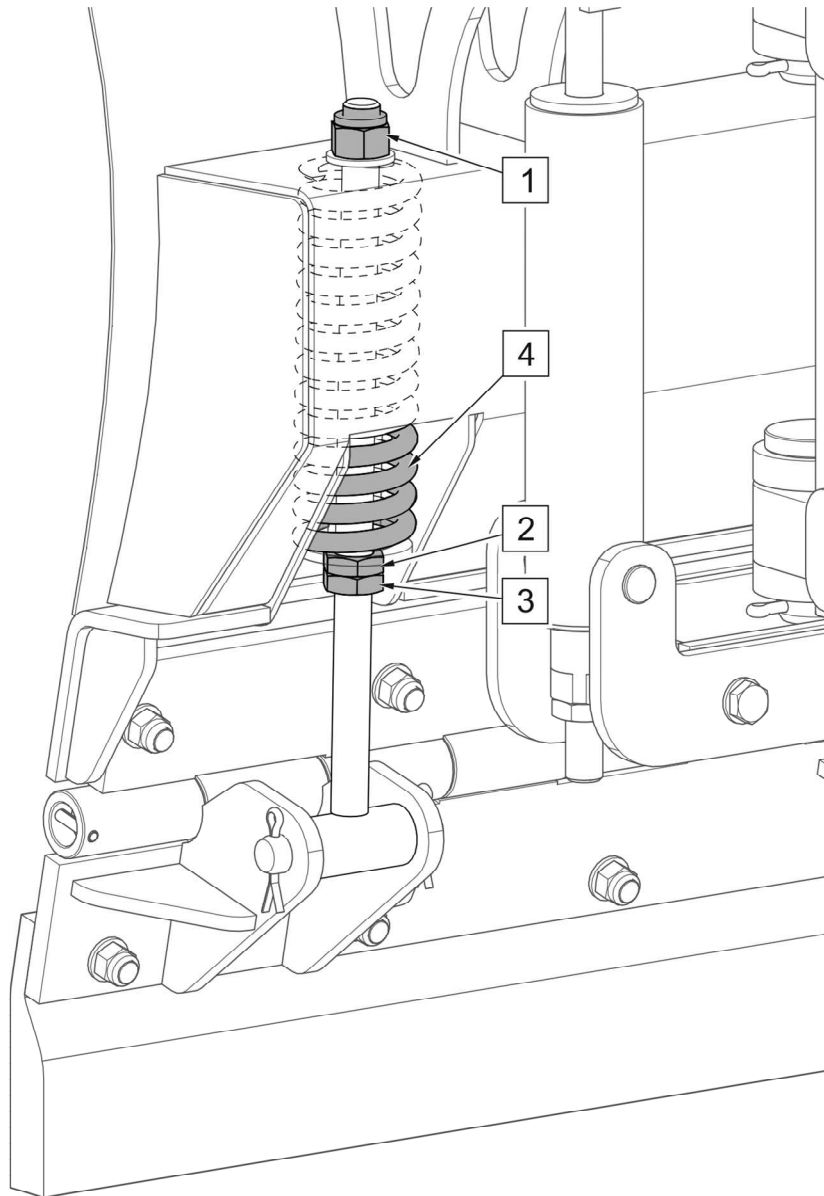

FIG. 5.2 Adjustment of collecting blades
The plough is equipped with three swivelling segments of collecting blades. When an obstacle is encountered, individual segments of collecting blades can independently swing backward and return to working position thanks to shock absorbing springs (FIG. 5.2). Inclination of blades and tension of springs can be adjusted. Blade segment inclination angle is adjusted using nut (1) while spring (4) tension can be adjusted using nut (2) after loosening lock nut (3).